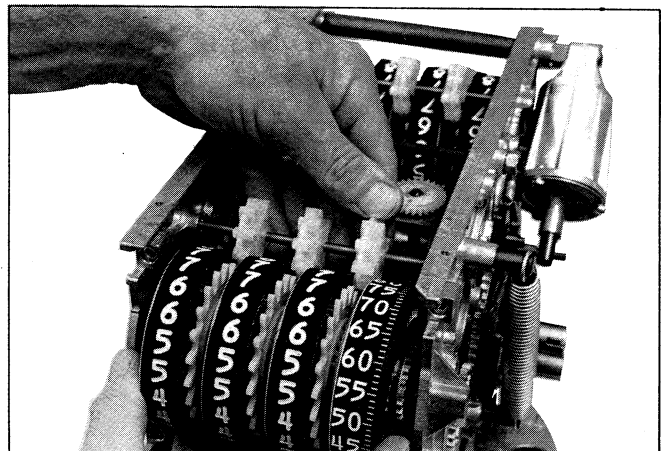

Figure 25. Spacing pinions for wheel bank installation.
- Place wheels on short dummy shaft with reset discs inserted in place on each wheel. With the short dummy shaft still inserted in the wheel bank, hold the assembly in front of the pinion shaft and space pinions as shown, Figure 25. Then install the wheel bank in the computer.